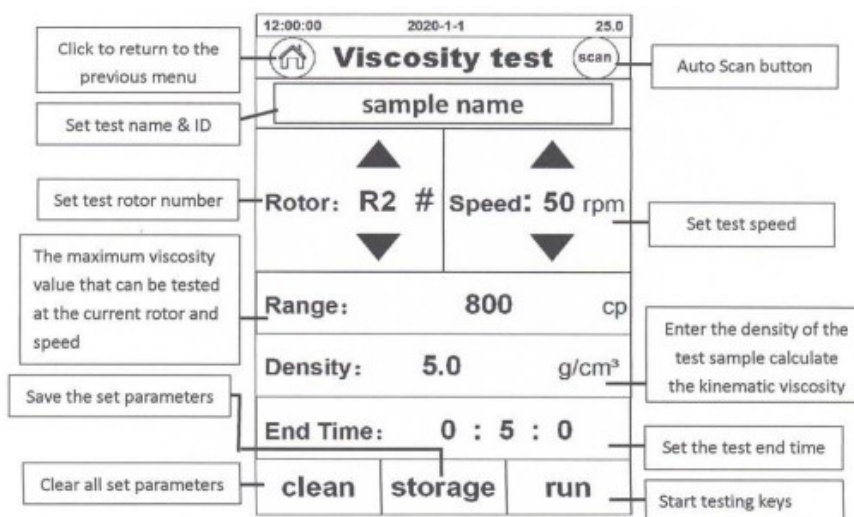

Fig. 18
1. Click on “Viscosity Test” to enter the viscosity test interface (Fig.18)
2. Parameter setting: Before the viscosity test, the test parameters suitable for the sample to be tested must be set (Fig.18), where “Sample name (when the sample name is not set, the default is the year, month, day and time node of the test), “Rotor” and “Speed” are required,